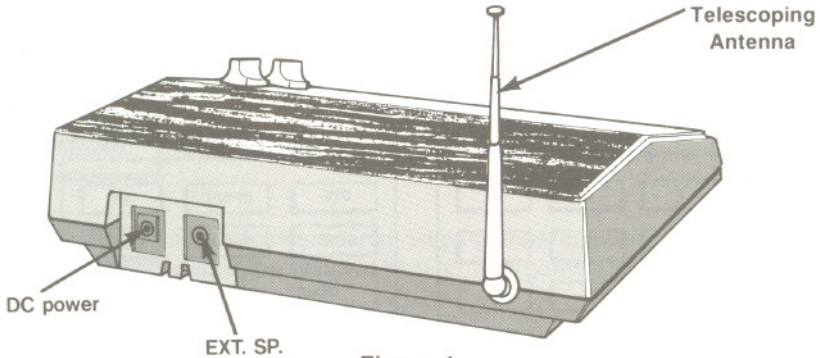
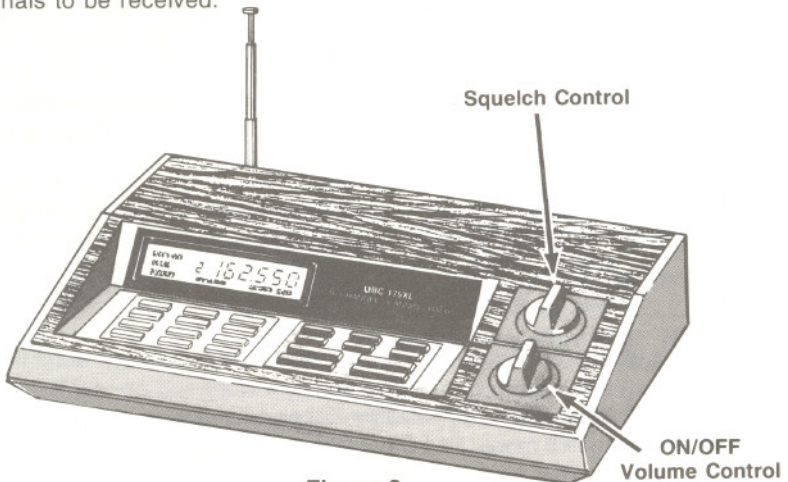

Figure 1
Figure 2
The telescopic antenna provided with the Uniden® Bearcat® 175XL is recommended for most monitoring. Insert the antenna swivel connector into the antenna jack located on the back panel (fig. 1). Extend the antenna. The swivel connector allows the antenna to be angled if desired. For weak signal reception or electrically noisy locations, an external antenna may be helpful.
1. **On-Off/Volume:** Turns the receiver power on or off, and also varies the audio output level (fig. 2).
2. **Squelch:** Eliminates the annoying “rushing” sound that is present between transmissions when no signal is being sent. Proper setting of this control keeps the receiver “quiet” and allows scanning until a signal is received (fig. 2). The 175XL also has an automatic squelch setting marked “AUTO”. Turn the squelch control to “AUTO” for a preset level that allows all clear signals to be received.
Plug the AC power cord into a standard 220 Vac wall outlet and into the AC Power receptacle (fig.1) on the radio. Slip the cord into the retaining channel on the bottom of the unit to avoid accidental disconnection. Turn the unit ON by rotating the ON-OFF volume switch clockwise. Press MANUAL key and adjust the "SQUELCH" CONTROL (fig.2) clockwise until you hear background noise; then turn it back counterclockwise until the noise disappears.